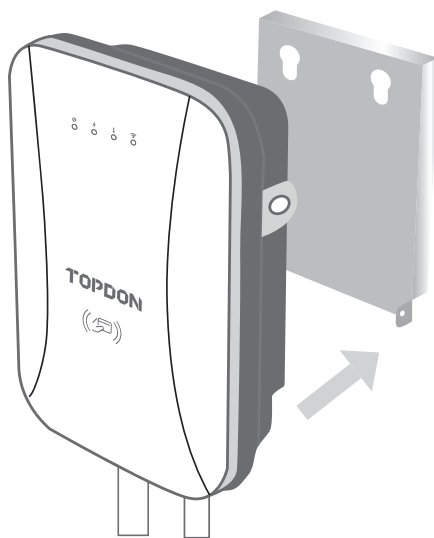

Fig. 5.4.7
6. Attach the charger to the bracket. (See Fig. 5.4.7)